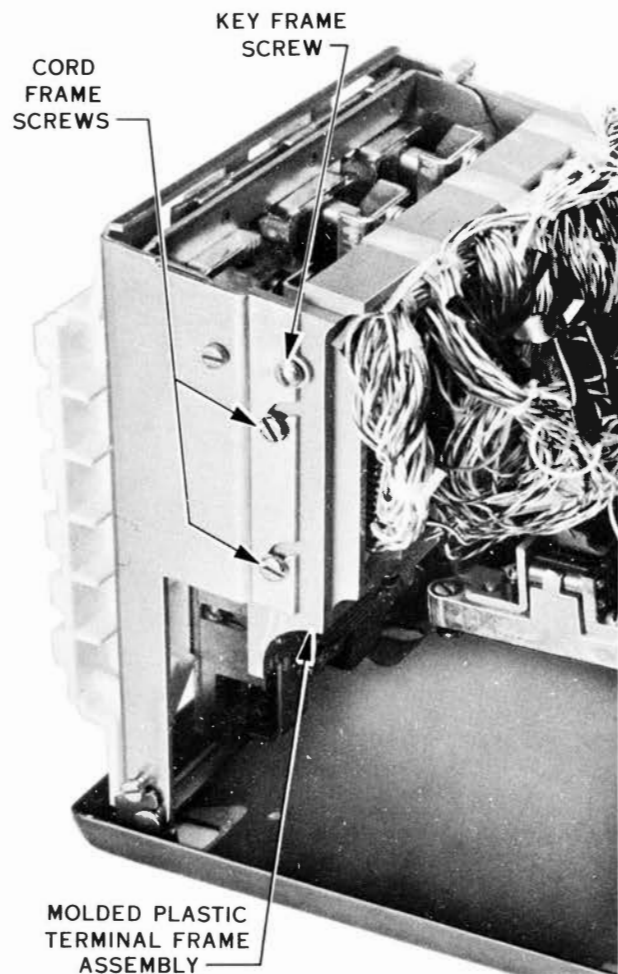

Fig. 5 — Method of Removing Mounting Cords
3.06 To remove mounting cord assembly (Fig.5) :
- (1) Remove bezel assembly.
- (2) Remove housing assembly.
- (3) Remove mounting cord clamp.
- (4) Remove screws from key frame (Fig. 5).
- (5) Raise key frame.
- (6) Remove dial mounting plate.
- (7) Disconnect leads on network and ringer.
- (8) Remove cord frame screws (Fig. 5).
- (9) Pull down on mounting cord frame to disengage amphenol plugs.